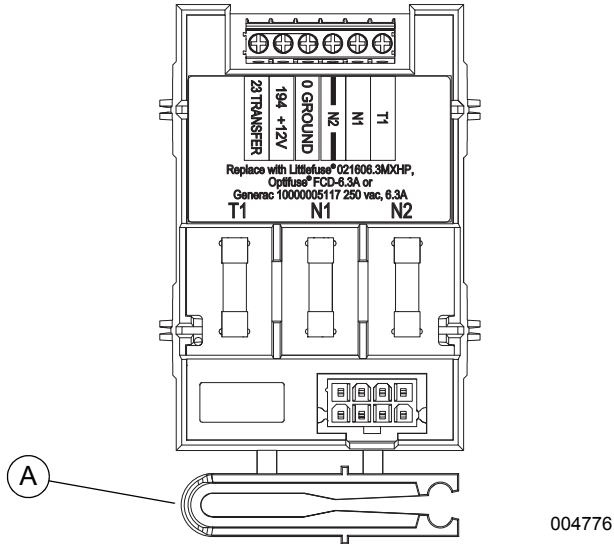

Figure 4-2. Fuse Removal and Installation Tool
See Figure 4-2. A fuse removal and installation tool (A) is included in the control housing.